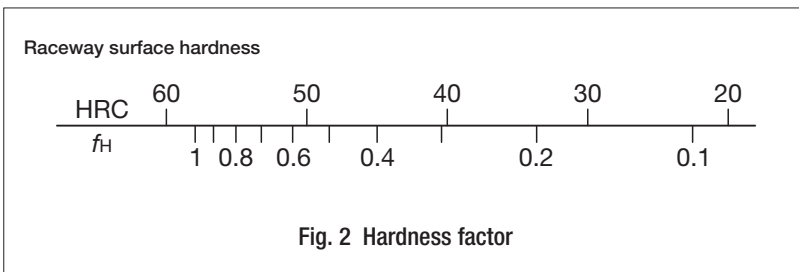

Fig. 2 Hardness factor
- f_H : Hardness factor (See Fig. 2.)